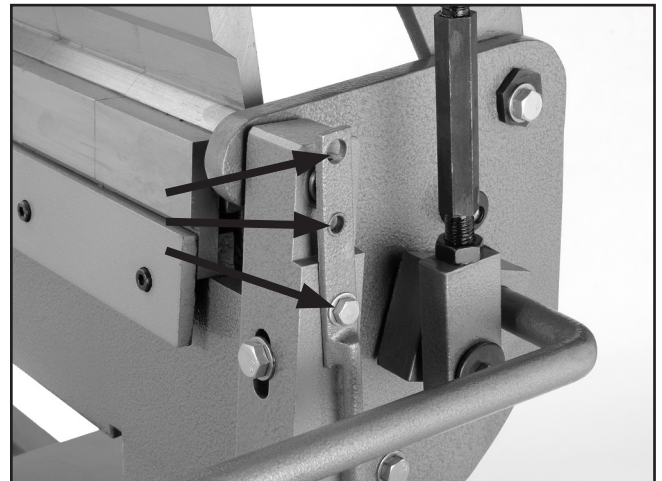

Figure 15. Stop rod attachment locations.
4. The stop rod can be attached in several locations for additional adjustment options, as shown in **Figure 15**.